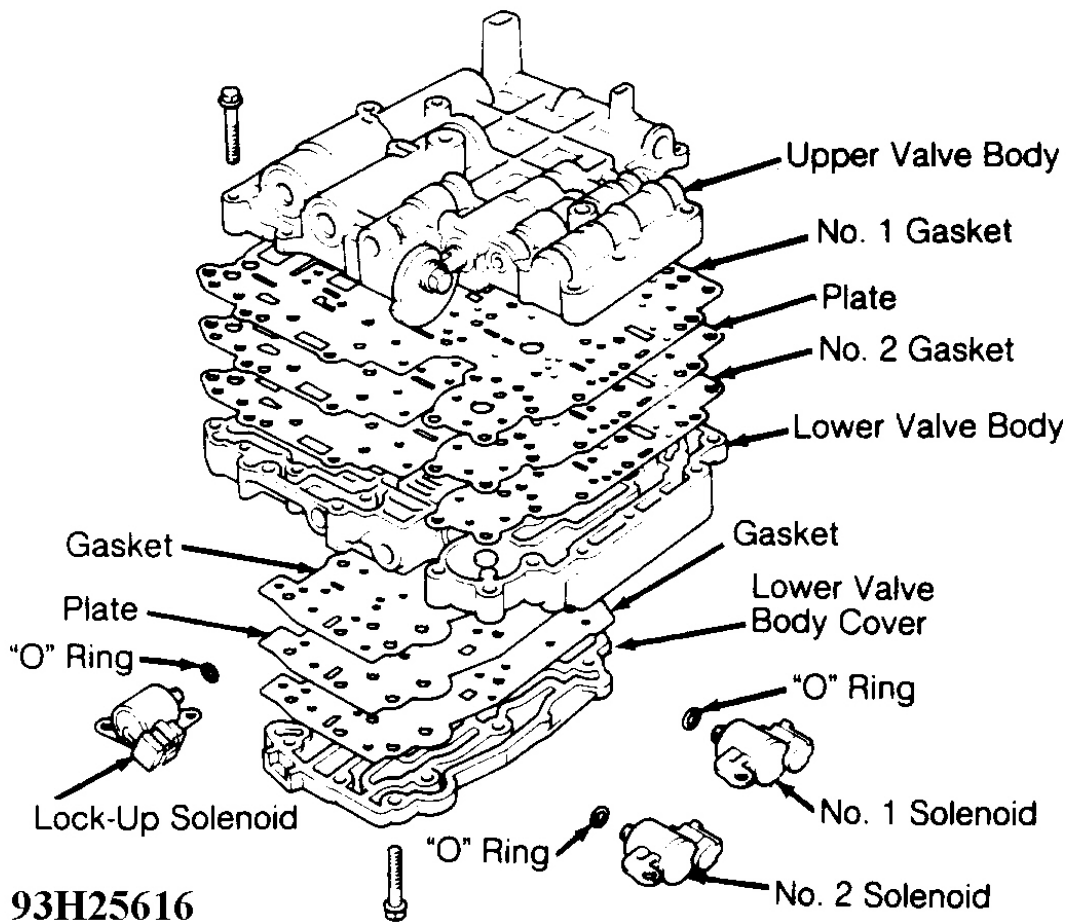

Fig. 43: Exploded View Of Control Valve Assembly
2. Remove 8 bolts from upper valve body. On A-240L, A-241L and A-243L transaxles, remove 5 bolts from lower valve body. On A-240E, A-241E and A-244E transaxles, remove 9 bolts from lower valve body. See **Fig. 42**. Hold plate against lower valve body and carefully remove lower valve body. **DO NOT** lose check balls. Note location of check balls, retainers, pins and plugs in valve body. Remove plate and gasket. See **Fig. 43**.